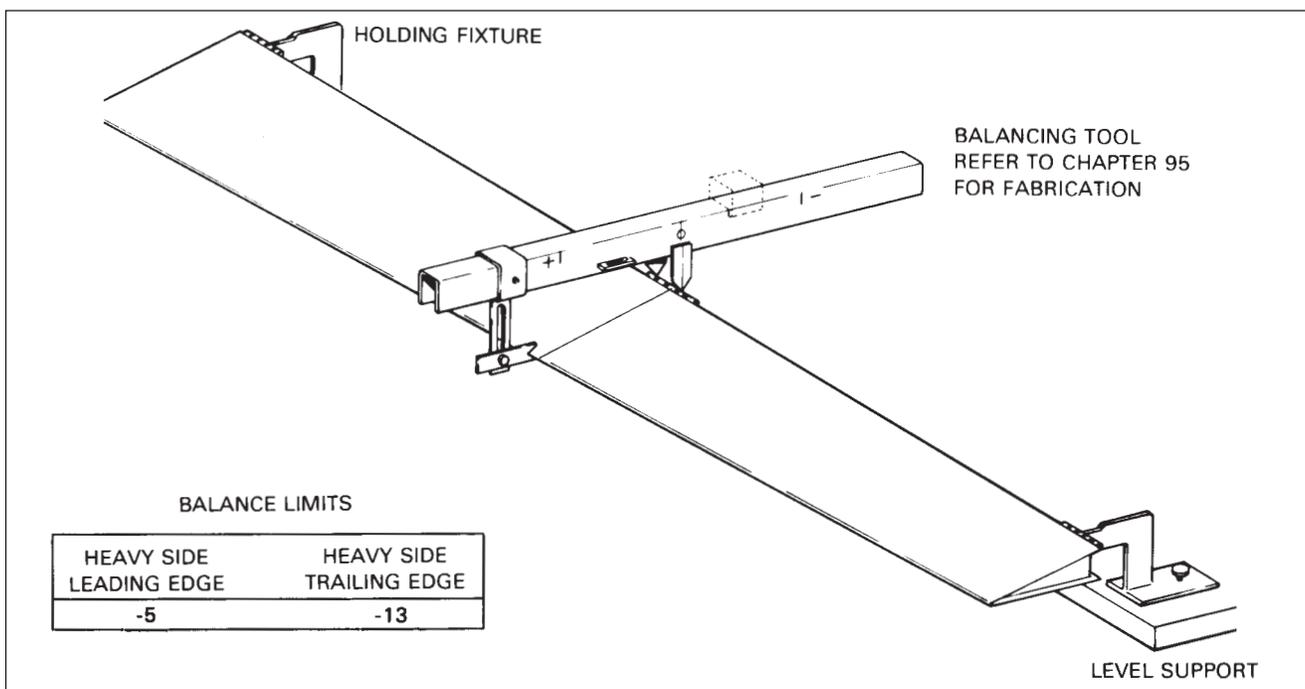

Figure 57-3. Aileron Balance Configuration
**BALANCING AILERON.** (Refer to Figure 57-3.)
Position the aileron on the balancing fixture in a draft free area and in a manner which allows unrestricted movement of the aileron. Place the tool on the aileron, avoid rivets and keep the beam perpendicular to the hinge centerline. Read the scale when the bubble level has been centered by adjustment of the movable weight and determine the static balance. If the static balance is not within the limits specified in Figure 57-3, proceed as follows: